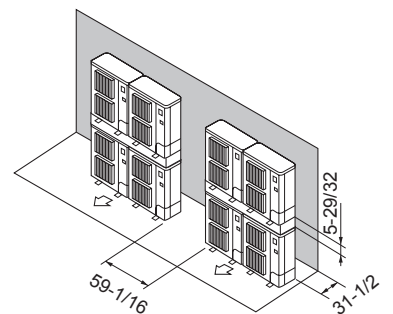

Fig. 3-17
⑦ Stacked unit arrangement (Fig. 3-17)